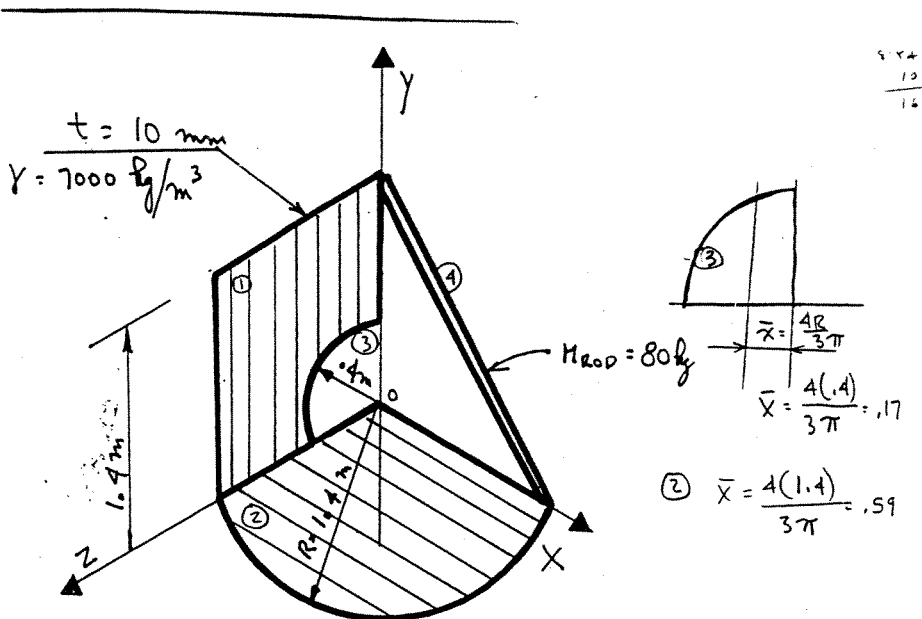

FIG. 4
4. Two thin plates shown hatched and a rod are welded together to form the structure shown in Fig. 4. Find the centre of gravity of mass of the structure.